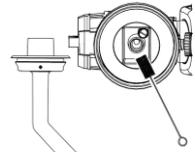

Fig. 15
11. Clean suction tube and suction nozzle in spray attachment using a brush and suitable cleaning agent (Fig. 15).